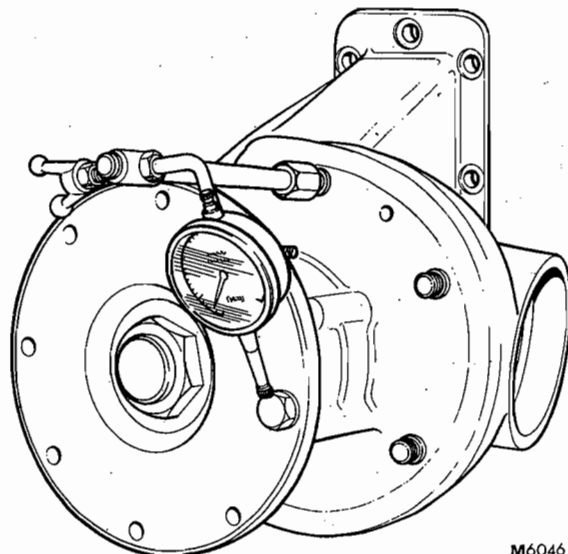

FIG. 3 CHECKING MITRE GEAR BACKLASH
12. Position a dial gauge as shown in Fig. 3 and using a setscrew secured to the output flange as a locating face, check backlash of mitre gears, see Data. Remove driven gear assembly and adjust shim pack as necessary until required setting is achieved.